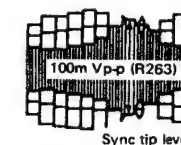

Figure 2-8
- Adjust R263 (record luminance level control) so that the sync tip level becomes 100m Vp-p as shown in Fig. 2-8.